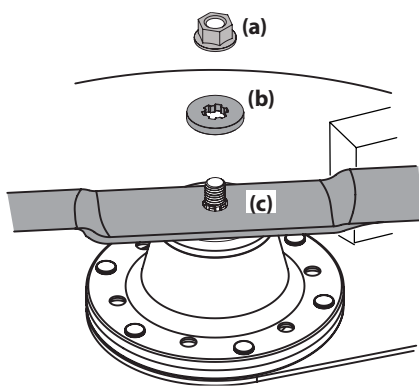

Figure 55
2. Remove the flange lock nut (a) and flat washer (b) from the spindle shaft and remove the blade (c). See Figure 55.